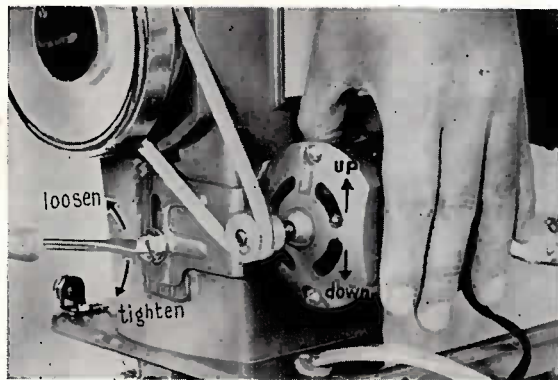

Fig. 2
- 1) Place the motor bracket over the tongue of the arm under the balance wheel, the screw hole in the center of the tongue can be seen through the slot of the motor bracket (Fig. 2).